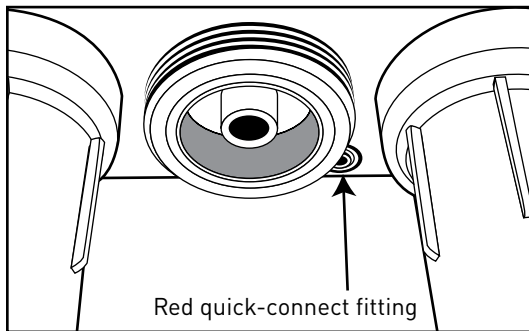

Figure 18
1. Locate the red tubing (reject water line) from the drinking water faucet. Place a mark on the red tubing 5/8 inch from the end. Moisten the end of the tubing with water and insert tubing into the red quick-connect fitting found behind the membrane (middle) housing. Insert tubing until the mark is flush with the quick-connect opening (Figure 18).